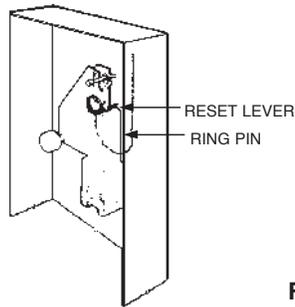

FIGURE 6-18
1. Insert ring pin in AUTOMAN II-C release. See Figure 6-18.